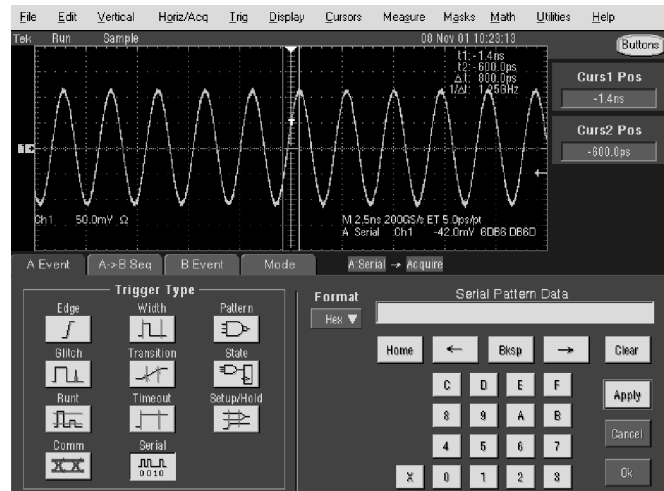

Figure 4-35: Isolated 0 triggering
- d. Adjust the cursors until the Δt readout equals 800 ps (one unit interval). Center the cursors around the center graticule line (see Figure 4-35).
- k. Verify that the instrument triggers one Unit Interval (UI, one baud divided by the bit period) before the 0 in the input signal (see Figure 4-35). Enter pass or fail in the test record.
- o. Verify that the instrument triggers at the 0 in the input signal (see Figure 4-35). Enter pass or fail in the test record.
- s. Verify that the instrument triggers one Unit Interval (UI) after the 0 in the input signal (see Figure 4-35). Enter pass or fail in the test record.